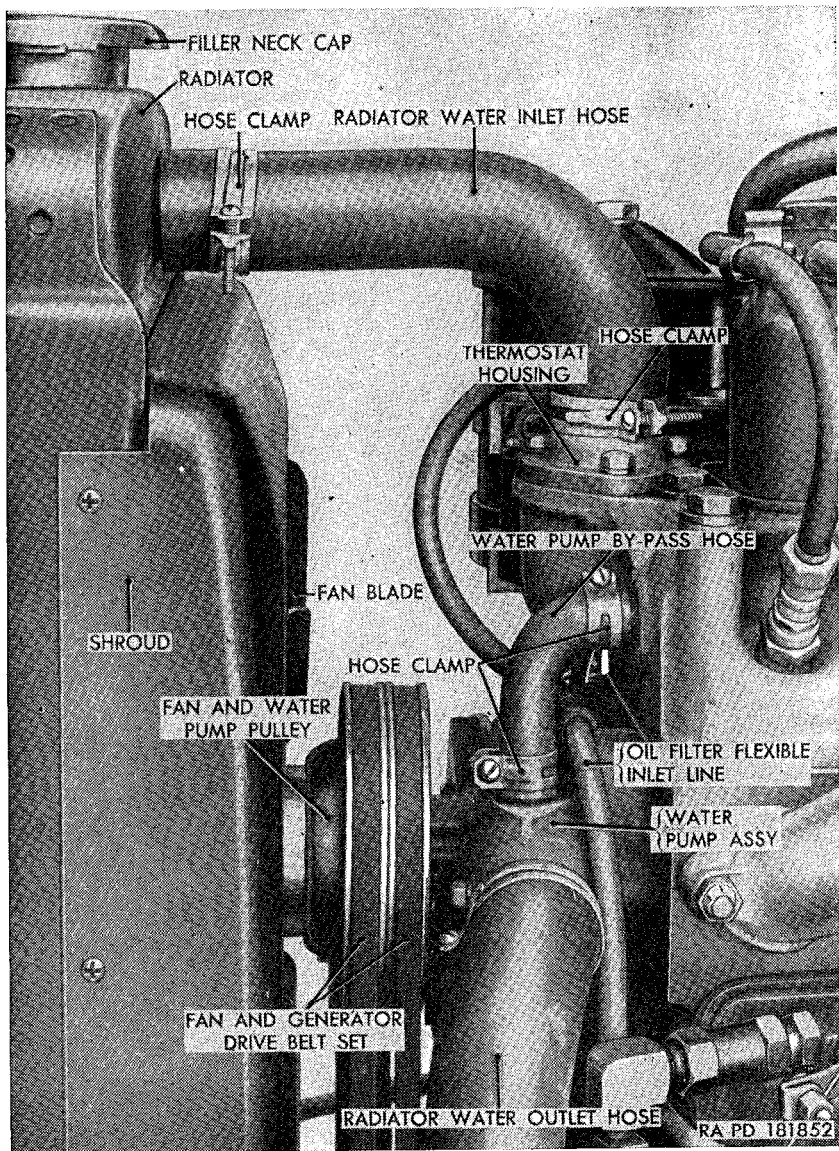
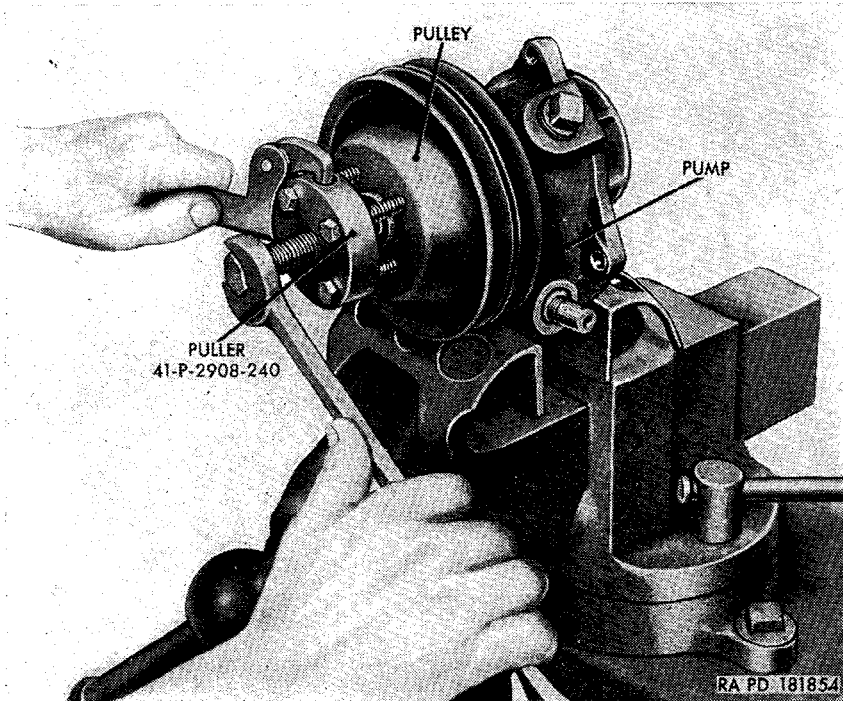

Figure 60. Cooling System.
Figure 63. Removing fan and water pump pulley from water pump assembly, using puller—41-P-2908-240.
a. *Description.* The cooling system (fig. 60) includes the radiator, fan, water pump, water temperature thermostat, fan and generator drive belts, and connecting hose and fittings. The radiator is the cellular-type with upper and lower tanks. A pressure-type filler neck cap permits cooling system pressure to rise to 4½ psi. The four-blade fan and the centrifugal-type water pump are driven from the generator drive pulley by a matched pair of V-belts. The water temperature thermostat is a bellows-type, located on top of the cylinder head in the thermostat housing. With the coolant below normal operating temperature (160° to 180° F.), the thermostat blocks coolant return to the top of the radiator, returning the coolant directly to the pump through the water pump bypass.
- (1) Drain the cooling system (par. 127*a*(1)) and remove the radiator guard (pars. 257*a* for the M38A1 and 266*a* for the M170).
- (2) Loosen the hose clamp screws on the radiator water inlet and water outlet hose (fig. 60) and pull hose from connections on radiator.
- (3) Lift the radiator with shroud assembly off the radiator-to-engine support rods, taking care that the radiator core does not rub against the fan blade.
(fig. 60)
a. Removal (fig. 60).
- (1) Remove the radiator with shroud assembly (par. 128*a*). Loosen the hose clamps screw on the water pump end of the radiator water outlet hose, and remove hose with clamp from connection on the water pump. Loosen the hose clamp screw on the water pump end of the water pump bypass hose. Remove the fan and generator drive belt set (par. 130*b*).
- (2) Remove the four bolts and lockwashers securing the fan blade to the fan and water pump pulley, and remove fan blade.
- (3) Remove the four screws and lockwashers securing the water pump to the cylinder block. Pull the pump with pulley and gasket from the cylinder block, at the same time, slipping the connection on the water pump out of the end of the water pump bypass hose. Discard gasket.
- (4) Clamp the water pump in a vise with soft jaws. Using puller—41-P-2908-240 (fig. 63), remove the pulley from the pump.
- (1) Place the fan and water pump pulley on the end of the water pump shaft and press it onto the shaft until the front face of the pulley hub is flush with the end of the shaft.
- (2) Make sure the gasket surfaces of the cylinder block and water pump body are clean and free of rust or scale. Place a new gasket on the water pump body with the gasket holes aligned with the bolt holes in the water pump body.
- (3) Position the water pump assembly (fig. 60) in the opening in the front of the cylinder block, at the same time, sliding the water pump bypass hose with clamp over the connection on the water pump.
- (4) Insert a $\frac{5}{16} \times 2\frac{1}{2}$ screw, with lockwasher, through the hole in the water pump body inlet opening. Start the threads but do not tighten. Insert a $\frac{9}{16} \times \frac{7}{8}$ screw, with lockwasher, into the top mounting hole in the water pump body and through the clip securing the flexible oil line to the cylinder block, and start the threads. Insert two $\frac{5}{16} \times \frac{7}{8}$ screws, with lock-
- (5) Place the fan on the front of the fan and water pump pulley with the concave side of the blades toward the engine. Secure the fan blade to the pulley with four $\frac{1}{4}$ x $\frac{5}{8}$ bolts and lockwashers.
a. Removal. Drain the cooling system (par. 127a(1)) sufficiently to lower the level of the coolant below the thermostat housing. Remove the three screws and lockwashers securing the thermostat housing (fig. 60) to the cylinder block. Lift the end of the radiator water inlet hose, with thermostat housing and gasket attached, from the